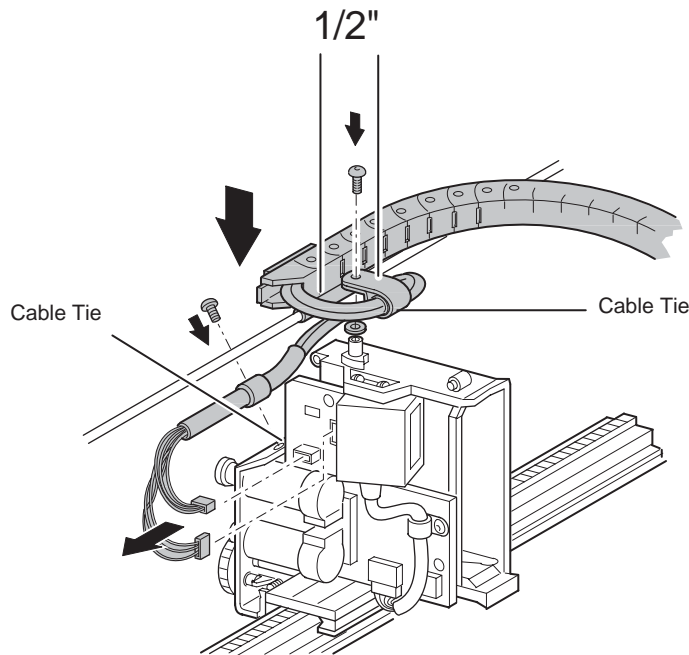

Figure 2-40: Installing the flex chain on the robot
4. See Figure 2-40. Where the cables exit the flex chain at the pivot point, bend the cables in a circle to the left (counter-clockwise) and back under the flex chain and cable support rod.